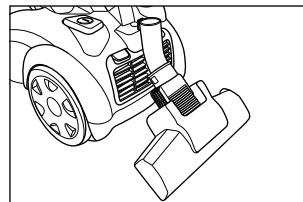

Fig. 5
Put away the appliance, placing the floor brush (N) on the special hook in the back (Fig. 5).